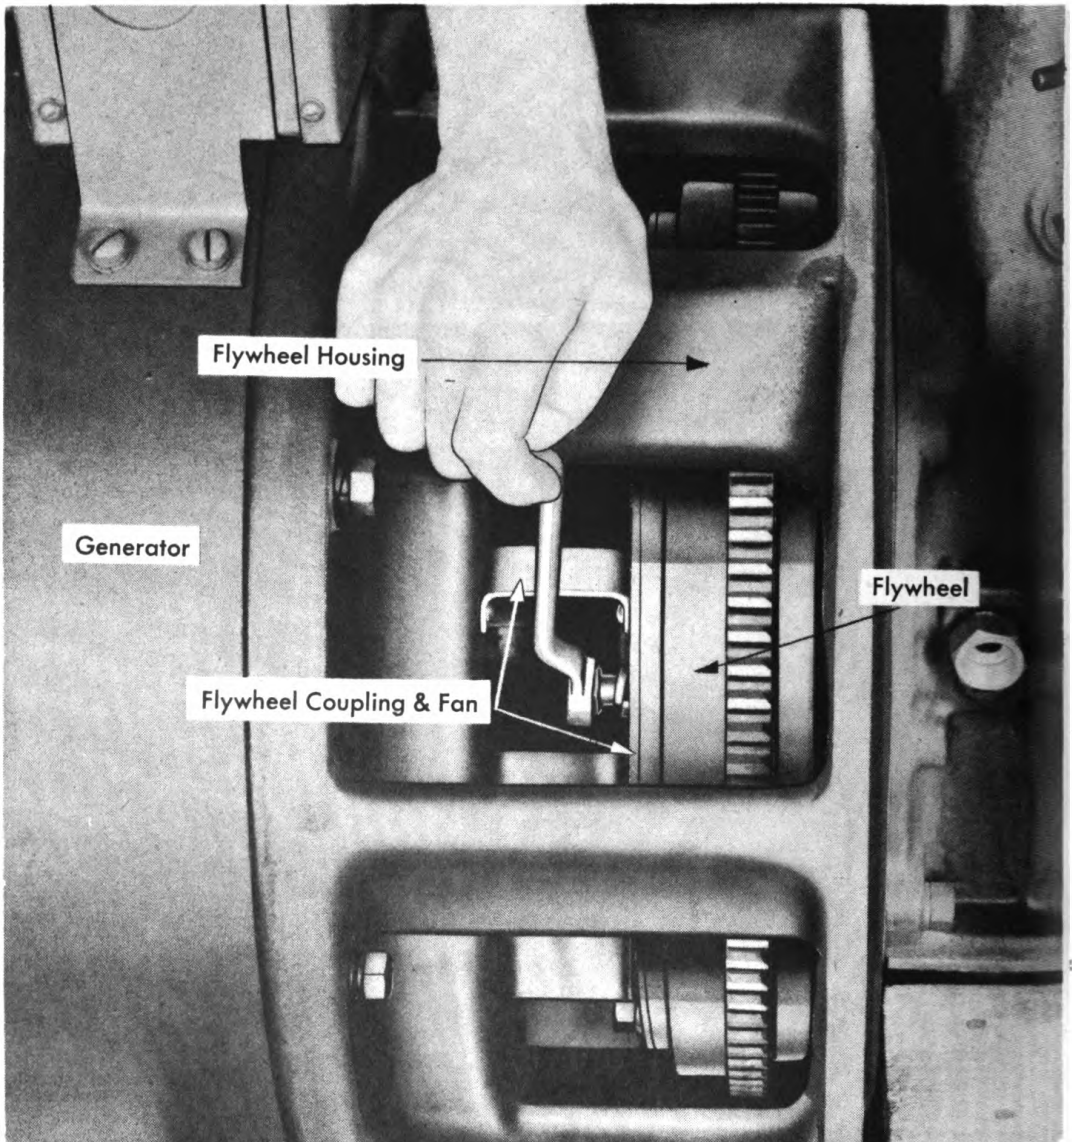

Figure 104. Removing or Installing Generator to Engine.
7. Remove the coupling capscrew from the coupling and the flywheel. See Figure 104.